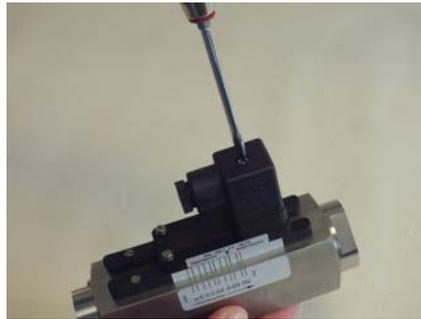

Fig. 20: Detach socket
1. ▶ Release the fixing screw (Fig. 20) from the socket
9. → Place the female socket onto the connecting plug and tighten the fixing screw (Fig. 20/1)